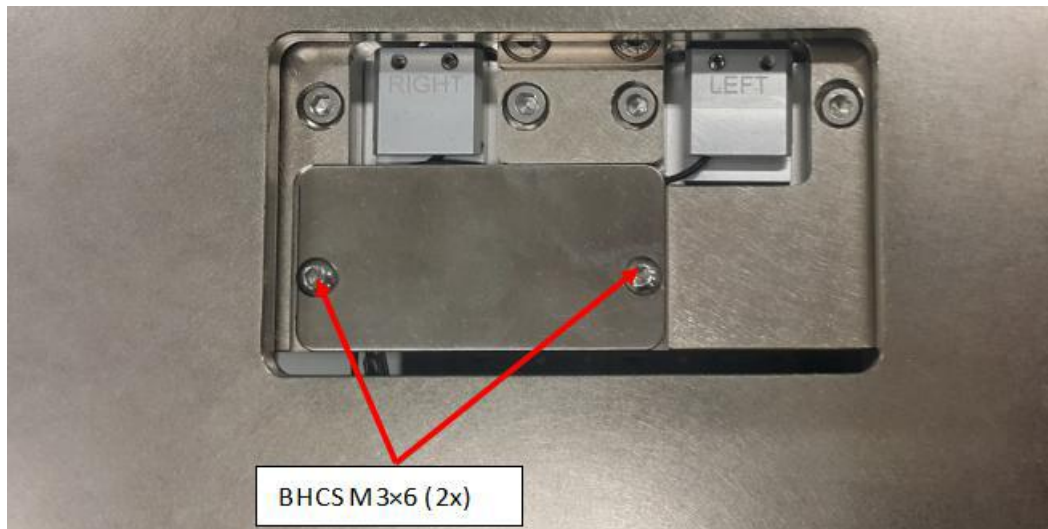

Figure 14 Sensor 1 Receiver
1. For Sensor 1 Receiver, remove BHCS M3×6 (2x) as shown in Figure 14.